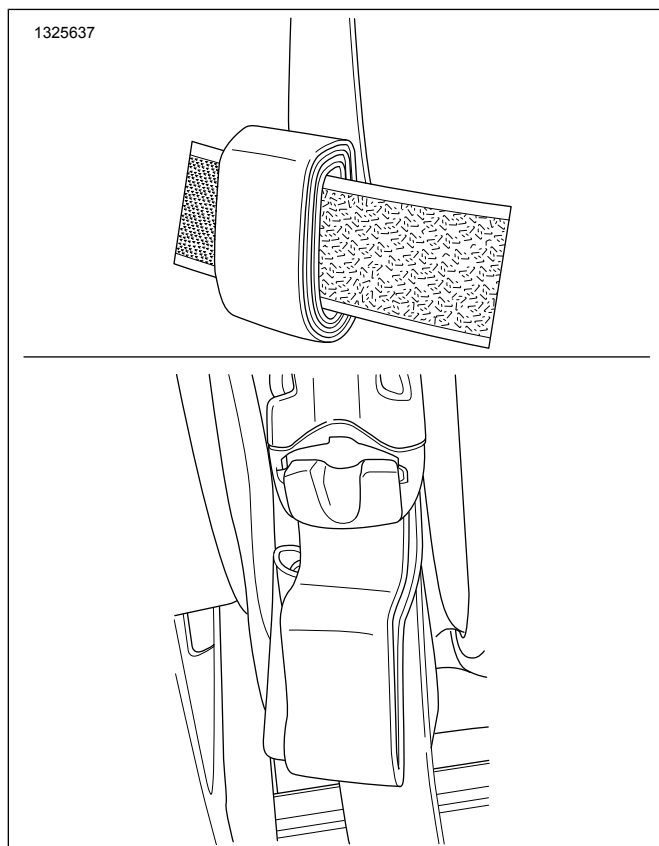

Figure 6. Excess Strap Material
7. See Figure 6. Roll up and secure any excess strap material using hook-and-loop tabs to prevent straps from contacting the rear wheel or scratching or scuffing painted surfaces.